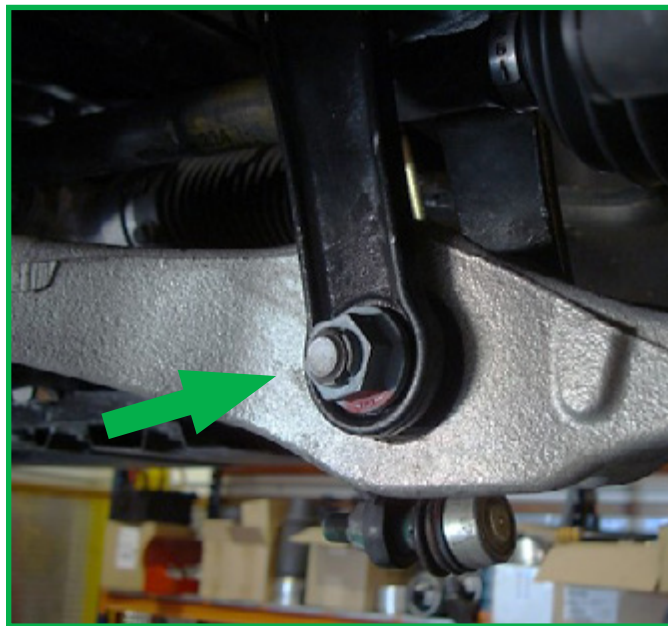

FIGURE 7
9. Remove the lower shock mount nut, followed by the bolt and remove the strut from the vehicle. (Figure 7)